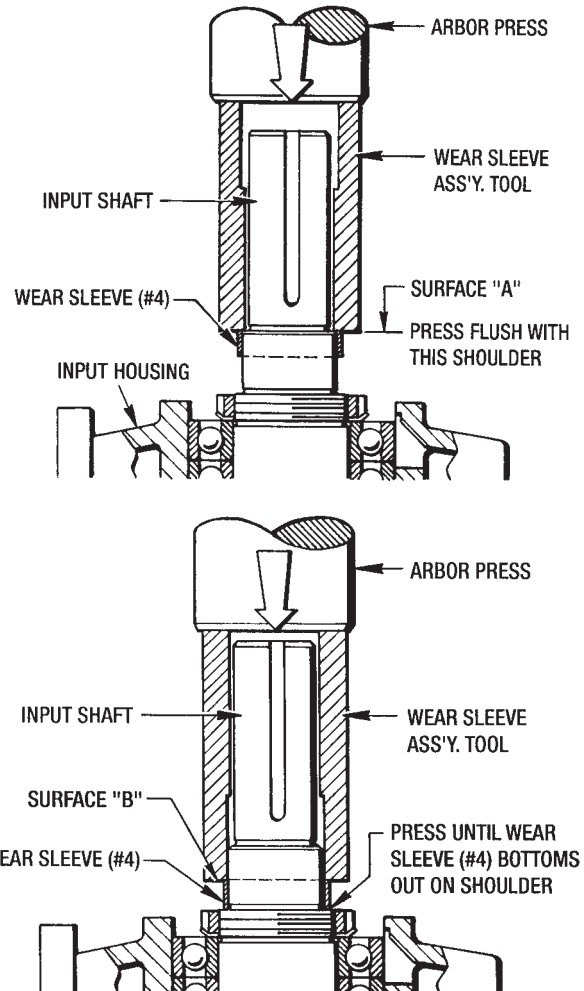

Figure 9.7 - Installing Wear Sleeve (#4)
6. Place the Input Housing and Input Shaft into an arbor press. Using Surface "A" of the Ass'y. Tool, press the Wear Sleeve (#4) until it is flush with the input shaft shoulder (*See Figure 9.7 Step 1*). Turn the Tool around and proceed to press the Wear Sleeve (#4) completely onto the shaft until it bottoms out on the next shaft shoulder. (*See Figure 9.7 Step 2*).
8. Place tape over the keyway and slide the Bearing Retainer (#7) over the Input Shaft, being careful not to damage the lip of the Oil Seal (#31). Attach the Bearing Retainer with (6) Screws (#63).